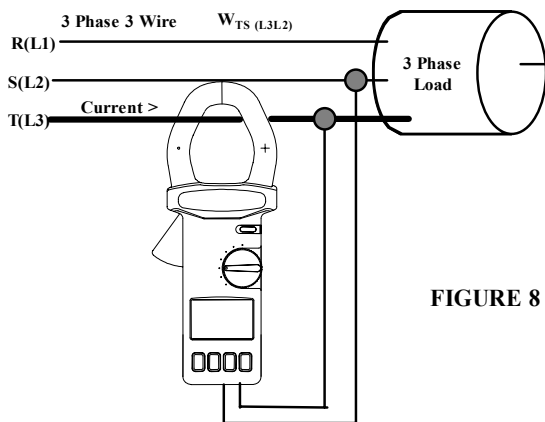

FIGURE 8
2. Secondly, measure W_{TS} (or W_{L3L2}). Refer to Fig. 8.